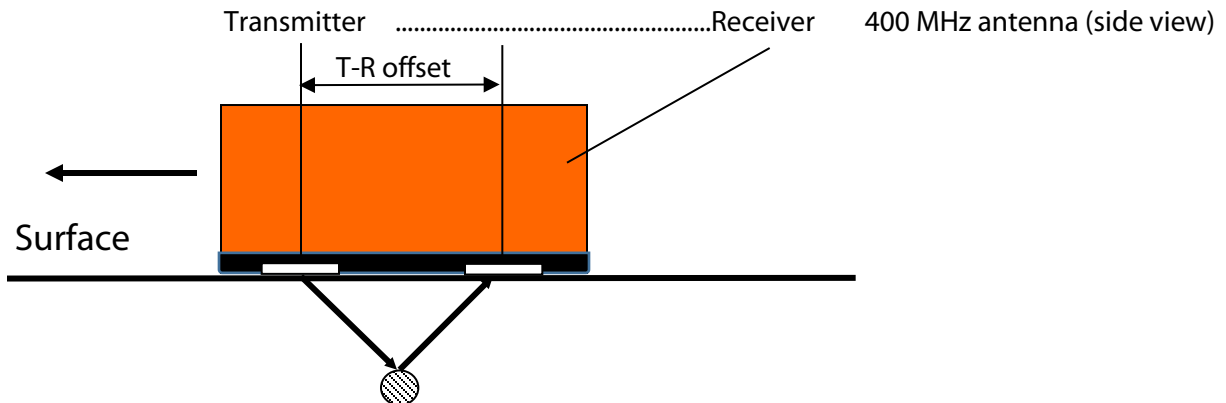

Figure 1: Antenna configuration.
Figure 1 shows an antenna over a reflecting utility.
**Target Detection:** When detecting linear metal targets, antenna orientation relative to the target becomes important. Antenna dipoles (transmitter and receiver) are most sensitive to the *metal* targets that are *parallel* to them. In other words, if you are scanning over a surface with the antenna in its cart in the normal orientation (Figure 1), it is sensitive to targets that are running perpendicular to the direction you are moving (parallel to the antenna dipoles).